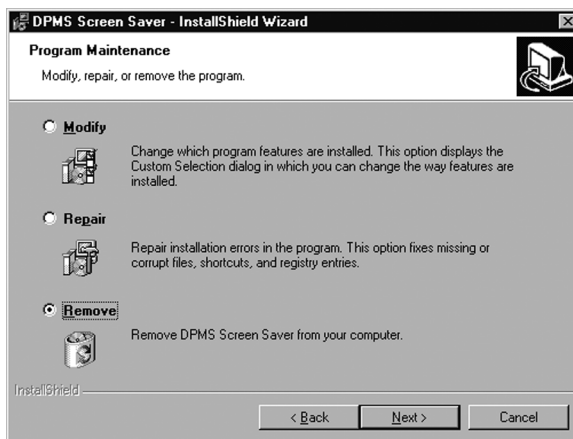

Figure 37
4. Click **"Remove"** on the Remove Program Screen of the Wizard (figure 37 on page 82).